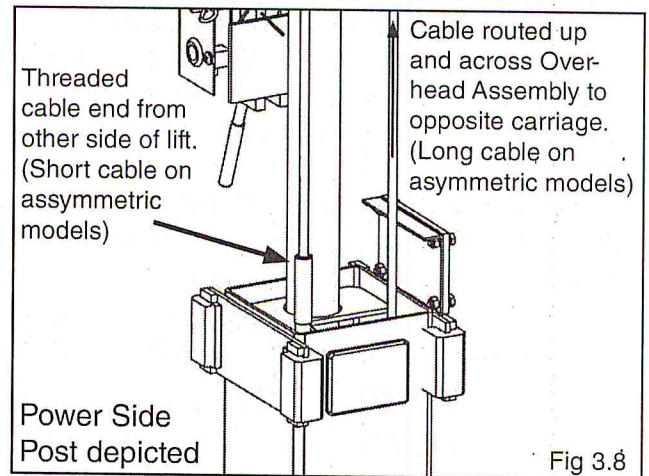

Fig 3.8
4. Route threaded end of cable upwards through the bottom of the carriage. Leave excess cable resting on top of carriage until further steps are required. (See Fig 3.8)